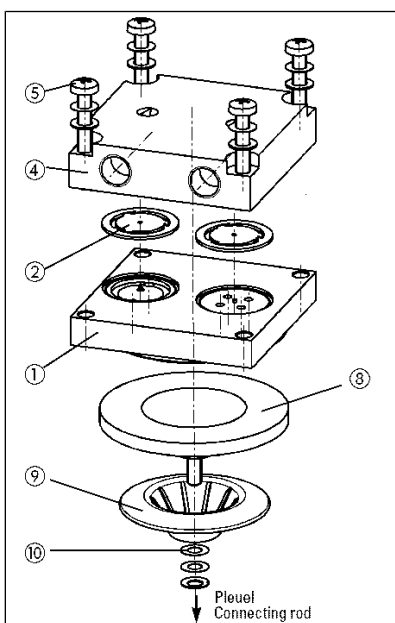

Fig.8 Replacing the structured diaphragm
4. Loosen the four screws (Fig. 8/5).
5. Remove the head plate (Fig. 8/4) and the intermediate plate (Fig. 8/1).